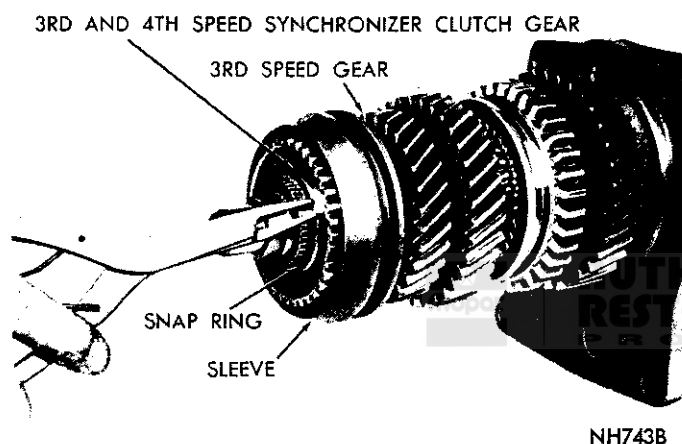

Fig. 22—Disassembling Mainshaft
(5) Remove snap ring (Fig. 22), that retains 3rd and 4th synchronizer clutch gear and sleeve, slide 3rd and 4th synchronizer assembly off end of mainshaft.
(6) Slide 3rd speed gear and stop ring off mainshaft.